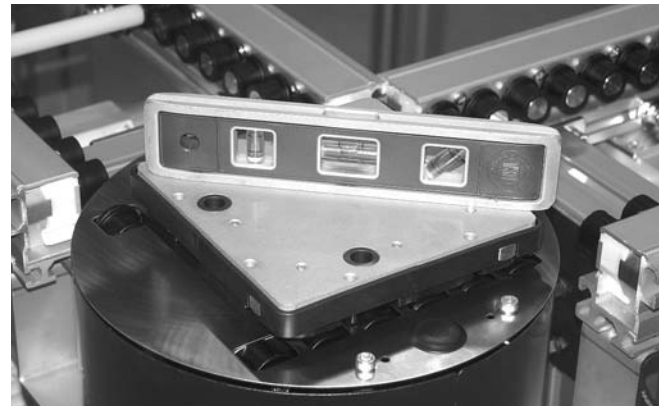

Figure 76
6. Verify that pallet is level (**Figure 76**). Adjust, as needed, and tighten all hardware.